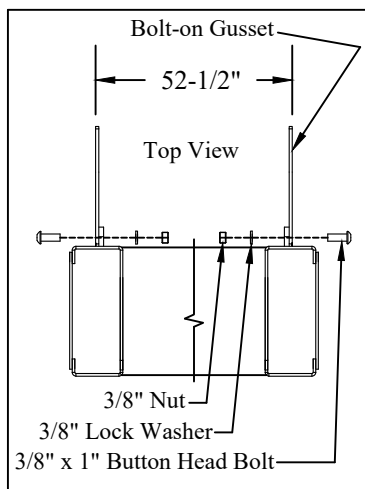

Figure 3: Top view of liftgate bolt-on gussets.
1. **Install** the bolt-on gussets with eight (8) 3/8" x 1" button head bolts, lock washers, and nuts (Figures 3 & 4).